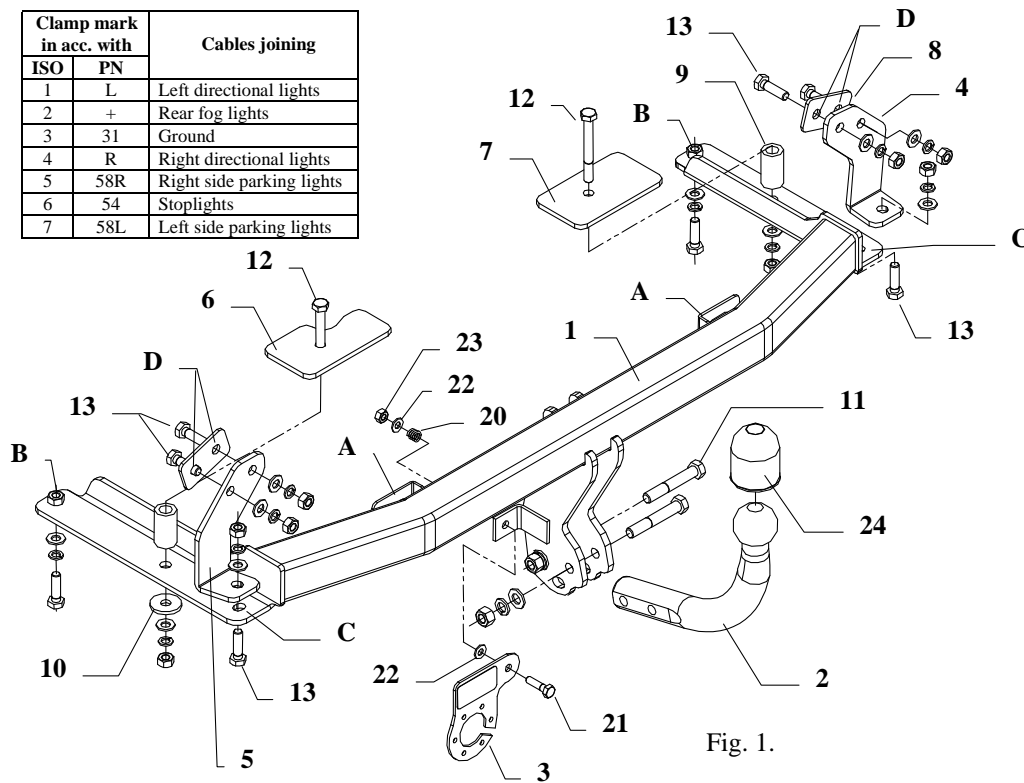

Fig. 1.
6. Position the element (pos. 5) on the left side and element (pos. 4) on the right side and fix it together with element (pos. 8) through the holes (pos. C and D) see the fig.1
8. Position the ball of towbar (pos. 2) with socket plate (pos. 3) and fix it with M12x75mm screws (pos. 11) from the towbar accessories.
9. Fix the socket plate (pos. 3) as shown on the drawing.